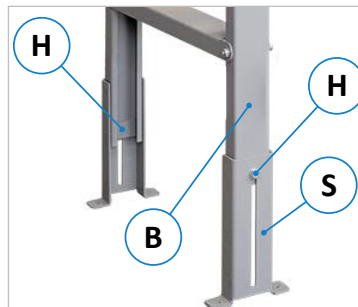

Figure 17: Mounting the table legs
- Now fit the two roller conveyor tables on the front and rear machine sides (procedure see section ⇒ 8.7.2) and adjust the height on the table feet via the screws (H) flush with the machine table top (⇒ Figure 17).